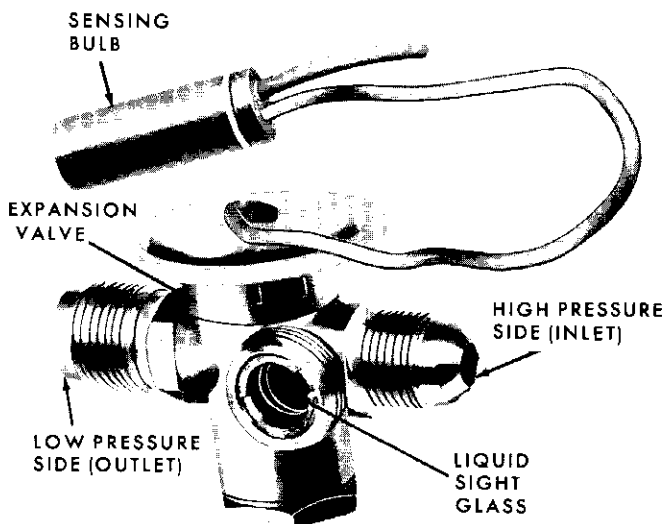

Fig. 3-15—Expansion Valve and Liquid Sight Glass—(61LM-7808)
2. Disconnect the high pressure (small) line from the expansion valve. (See Figure 3-15.)